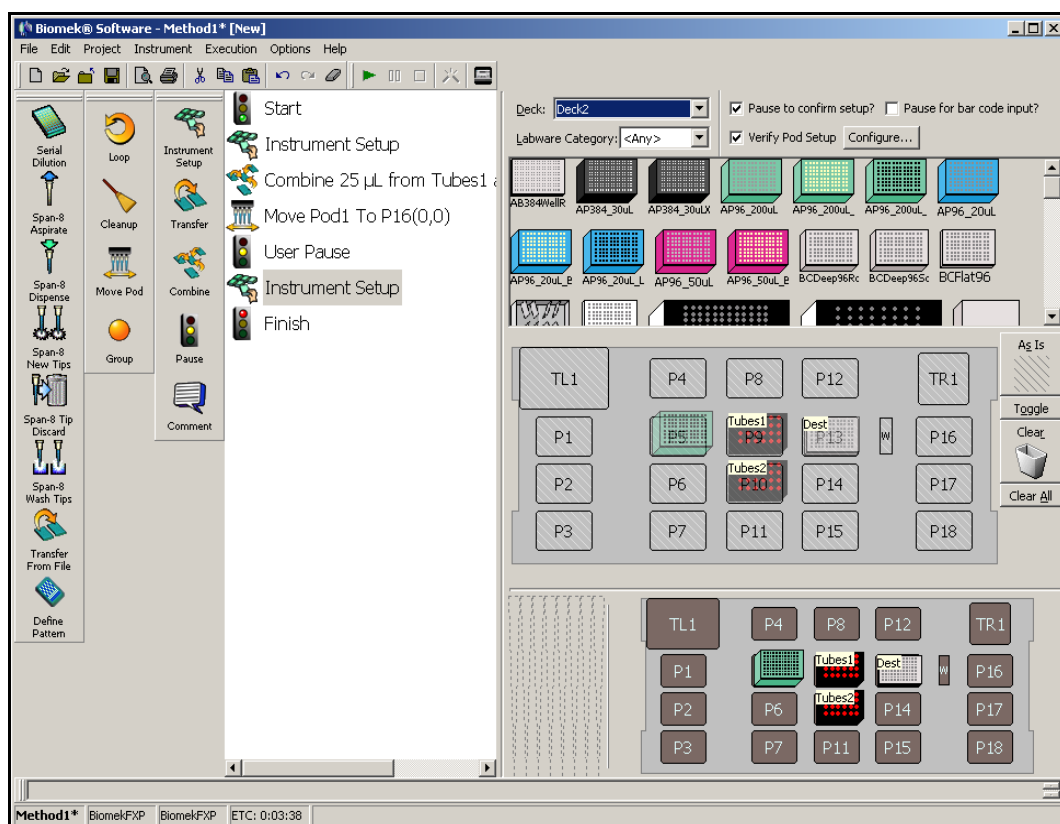

Figure 6-11. Adding an Instrument Setup step and toggling all deck positions As Is
2. Choose **Toggle** under the **As Is** square. This lets the software know that all deck positions are to remain as they are. The main editor should now look like Figure 6-11.